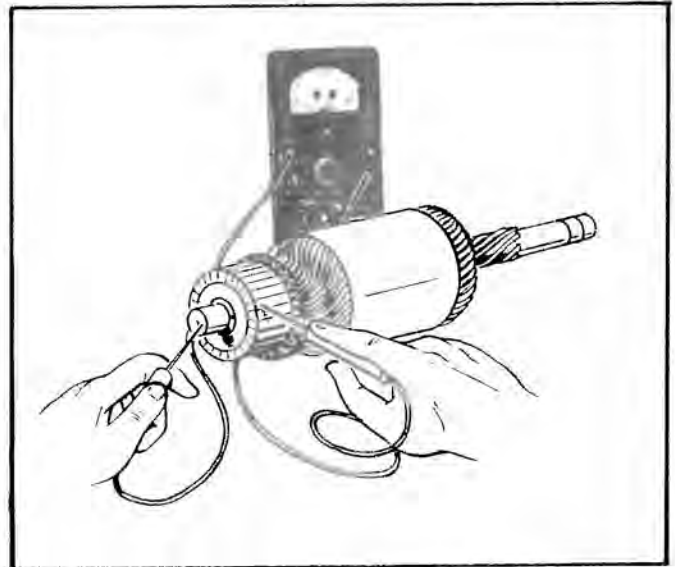

FIGURE 17. TESTING ARMATURE FOR GROUNDS
1. **Testing Armature for Grounds:** Touch armature shaft or core and the end of each commutator bar with a pair of ohmmeter leads. If the ohmmeter reading is low, it indicates a grounded armature. Replace grounded armature. See Figure 17.